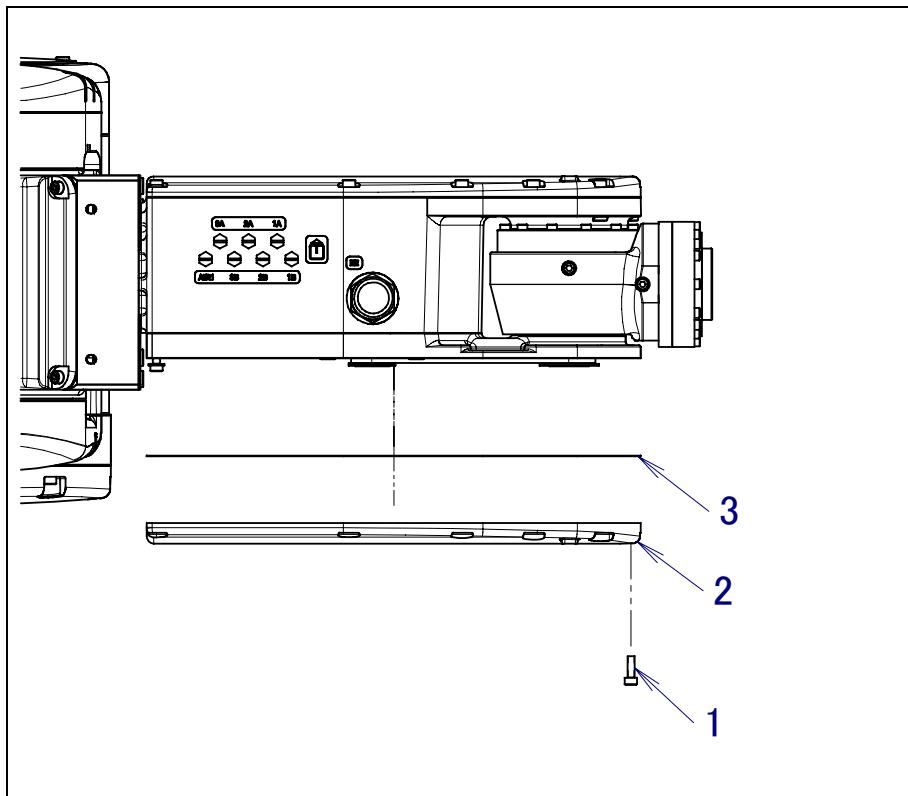

Fig.5.3.2 (a) Remove the J2 arm cover
- 23 Cut the nylon band which connect cable and air tube to clamp J3-2 and sheet referring to Fig.5.3.2 (g) and (h).